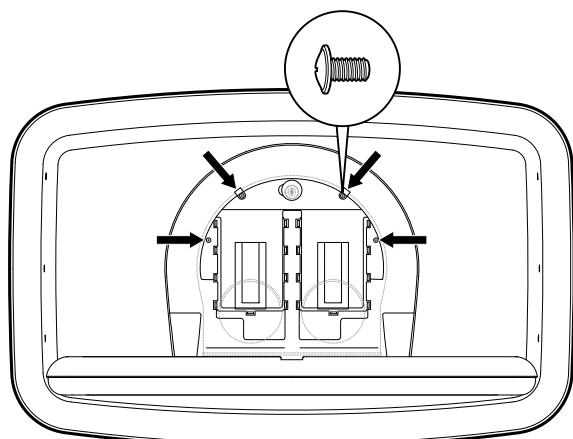

Fig. 3
- Use the provided hardware to secure the liner dispenser to the metal frame. **Fig. 3**